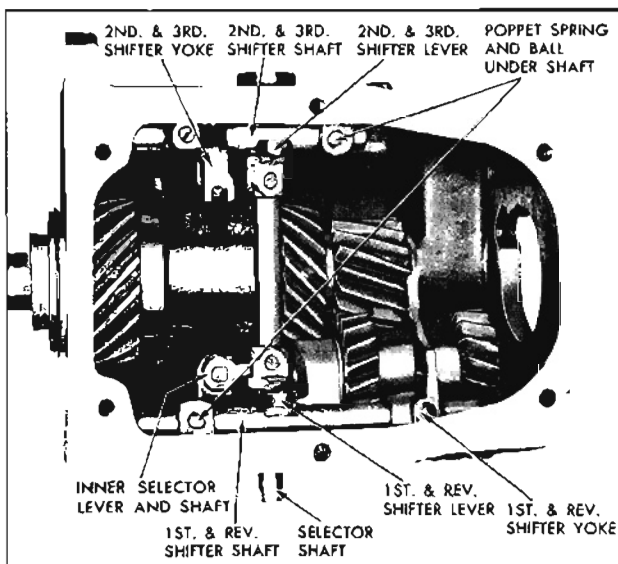

Fig. 7-13 Shift Mechanism
4. Remove the set screws from two shifter yokes. (Fig. 7-13)
12. Remove the set screws from the inner shift levers. (Fig. 7-13)